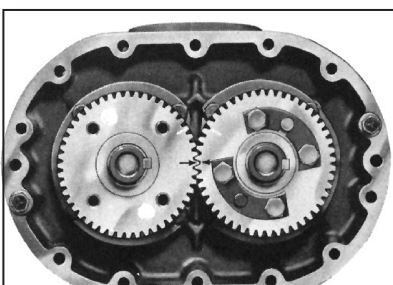
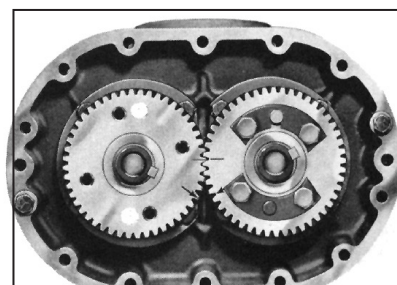

Figure 7 - Position of timing marks
Figure 8 - Position of timing marks
- a. Align timing marks on gears (Figure 7). Rotate drive gear clockwise approximately three teeth and mark a matching reference line on each gear as shown in Figure 8. This gear position is necessary so rotors will clear and not jam. Do not allow the gears to move from the matched reference line while pulling. Use a light rocking motion to insure that the lobes have not jammed. Remove driven gear first then drive gear.
9. Insert gear keys [24] in their proper location and flush with top of shaft. Use the two keyways facing to the right. A tight fit is required. Coat shafts and keys with lubricant. Install drive gear (right hand helix) on drive rotor (left side). To install driven gear, align reference marks as shown in Fig. 7. Install driven gear carefully to avoid damaging any teeth when engaging opposite gear. Secure with spacers [57], washers [25], and flat head Allen screws [29].